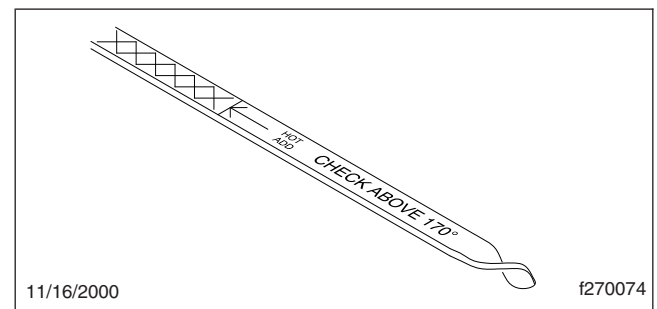

Fig. 2, Transmission Dipstick
3. With the engine running, wipe the dipstick clean and check the fluid level. Any level within the COLD RUN (lower) band is satisfactory for operating the vehicle. See Fig. 2. If the level is not within the COLD RUN band, add or drain fluid until it reaches the middle of the COLD RUN band.